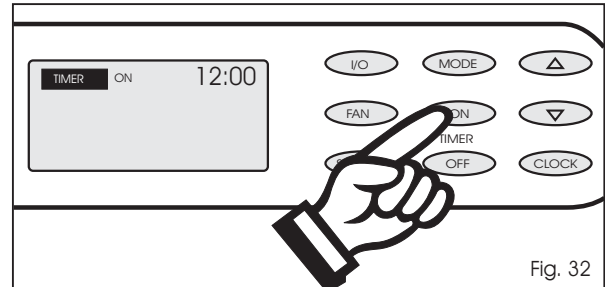
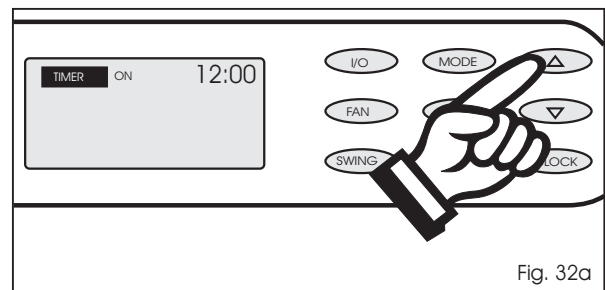
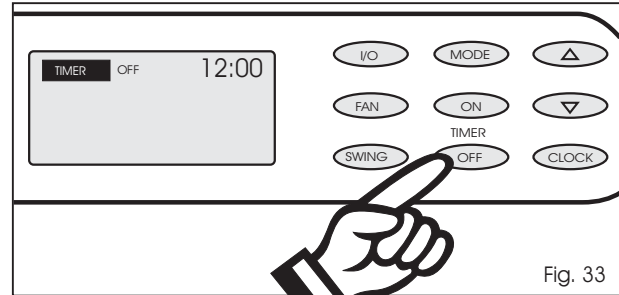
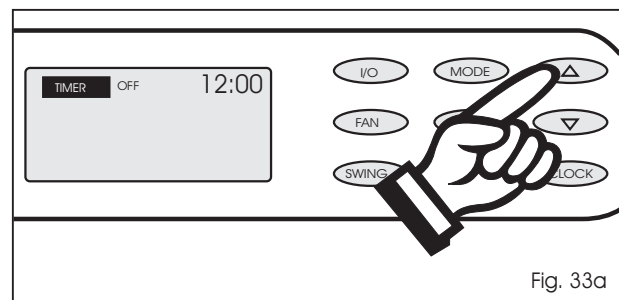

Fig. 32
Fig. 32a
Fig. 33
Fig. 33a
7) Press the **TIMER-ON** key pad to initiate the **AUTO-ON** time sequence. Fig. 32. The display window will indicate **TIMER-ON** and the word **ON** will flash for 5 seconds. Press the  $\Delta$  or  $\nabla$  key to select the desired **AUTO-ON** start time. Fig.32a.
- 2) Press the **TIMER-OFF** key pad to initiate the **AUTO-OFF** time sequence. Fig. 33. The display window will indicate **TIMER-OFF** and the word **OFF** will flash for 5 seconds. Press the  $\Delta$  or  $\nabla$  key pad to select the desired **AUTO-OFF** start. Fig.33a.
1) Press the **TIMER-ON** key pad to initiate the **AUTO-ON** time sequence.(Fig.32). The display window will indicate **TIMER-ON** and the word **ON** will flash for 5 seconds. Press the  $\Delta$  or  $\nabla$  key pad to select the desired **AUTO-ON** start time.(Fig. 32a).
2) Press the **AUTO-OFF** key pad to initiate the **AUTO-OFF** time sequence. (Fig.33). The display window will indicate **TIMER-OFF** and the word **OFF** will flash for 5 seconds. Press the  $\Delta$  or  $\nabla$ key pad to select the desired **AUTO-OFF** time.(Fig. 32a).